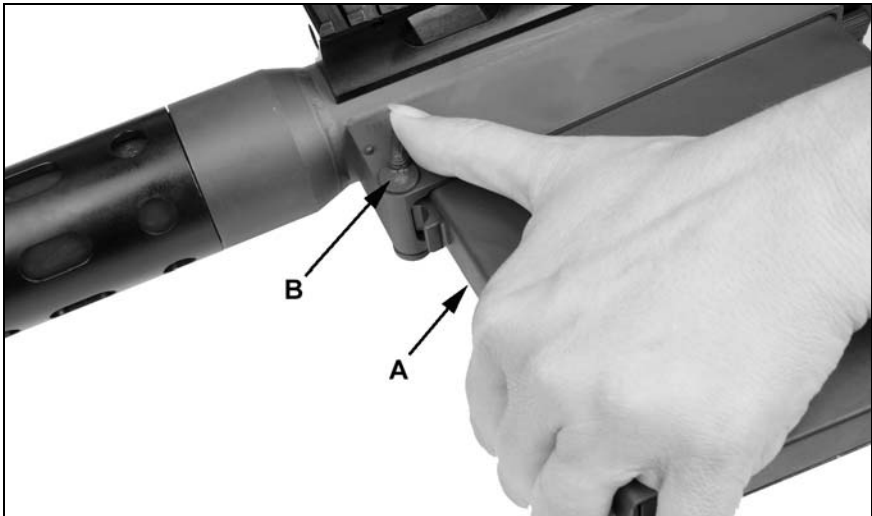

Figure 18
2. **Remove Magazine (If Equipped)** Grasp the firearm while keeping your finger off the trigger. Place your left hand on the forward end of the magazine (A) as illustrated. Press the magazine release button (B) forward to OPEN and pull the magazine out to remove. See figure 18.